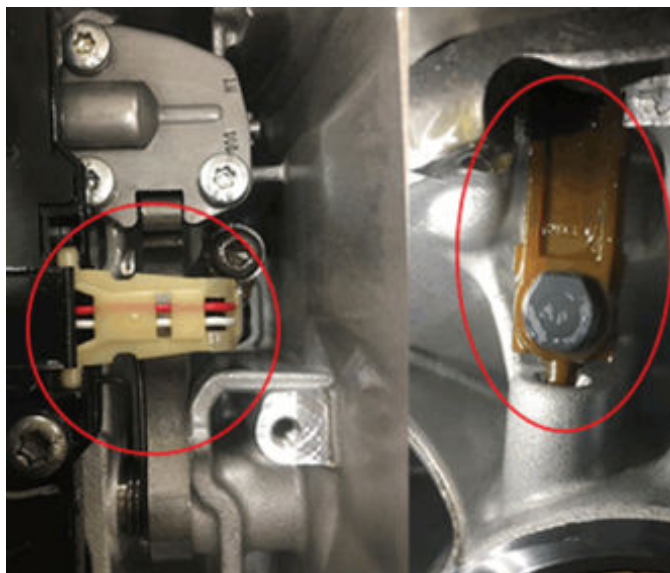

**Fig. 44**
65. Latch the electrical connector lock by pushing down Fig. 44.